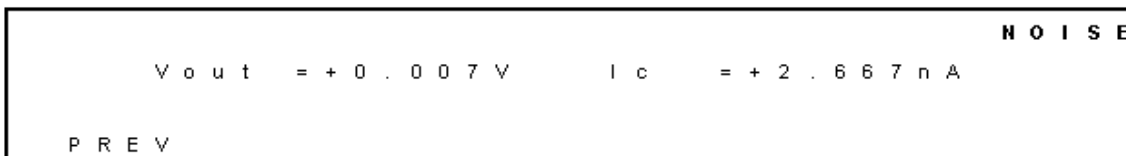

Figure 5-5 Noise Test Screen
- c. The clock on row 3 counts down for 5 minutes while the cell current stabilizes, then the output and cell potential values (read-out of the current) appear (Figure 5-5).